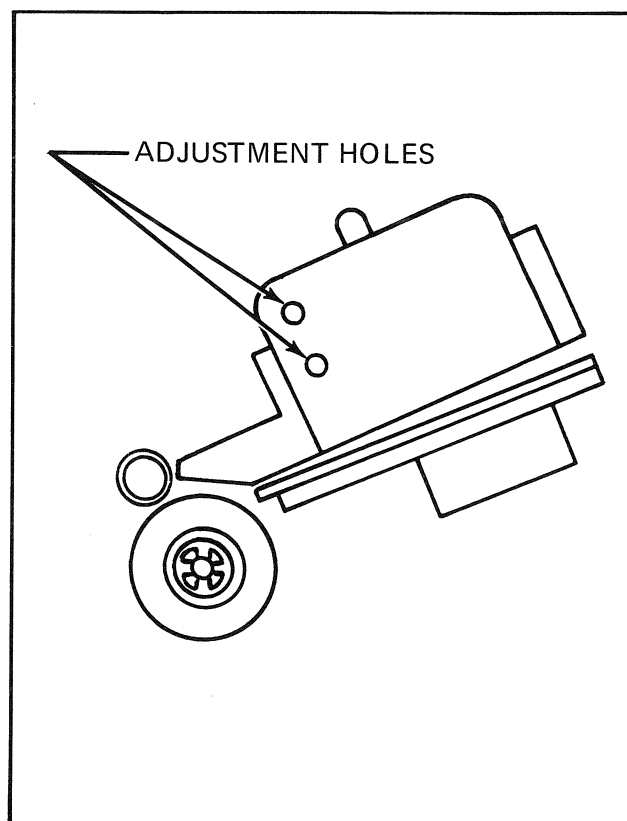

Fig. 4-15
5. Turn the adjusting screws on the sound head, alternately, until the highest possible meter reading is obtained. (See figure 4-15.)